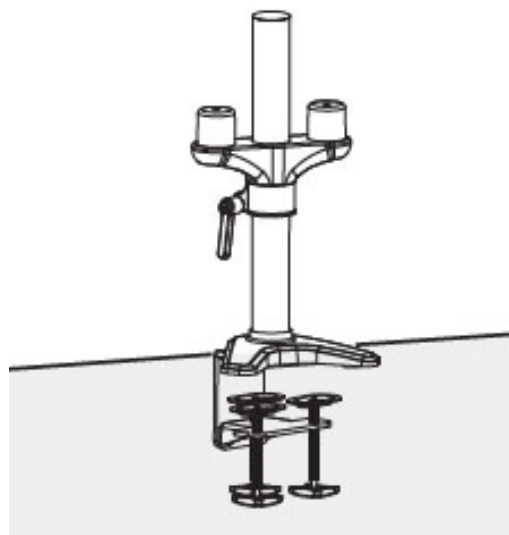

Figure 2
2. Tighten the C-Clamp to the desktop by turning the clamp screw clockwise, see **Figure 2**.